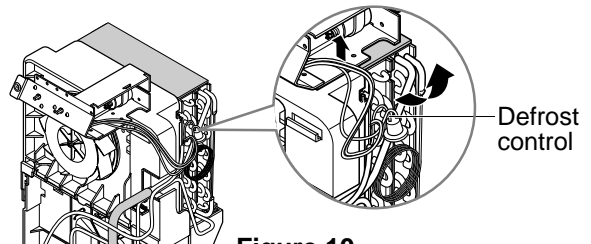

Figure 10
2. Remove the defrost control from the suction tube. (See Figure 10)